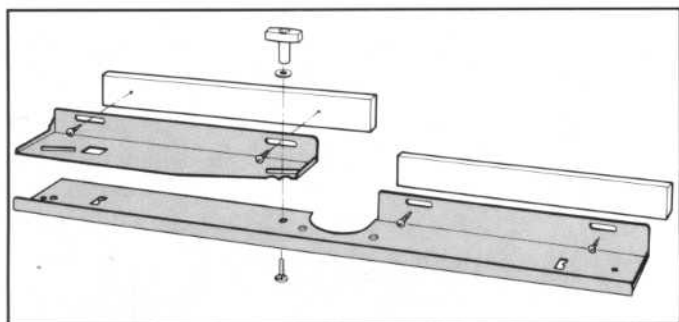

FIGURE 1
Fix the two MDF sub-fences (D) to the front fence and the main fence by means of the self-tapping screws (U) provided. Note that the MDF has been pre-punched to indicate the screw locations. **Figure 1.**